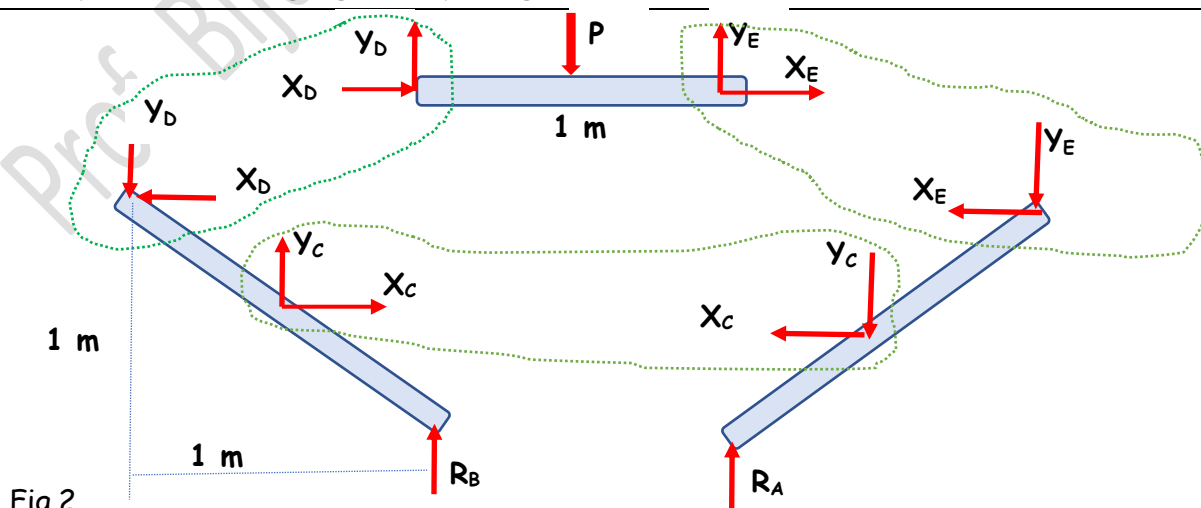

Fig.2
There are totally eight unknown forces in the free body diagrams Fig 2. We can write three equilibrium equations for each of the member. So, we get nine equations in total. We can solve them simultaneously to evaluate the unknowns.
Q.2 Another frame formed by three members is shown in figure 2. A load of 12 kN is acting at D. The pin at C can slide along the slot without friction. Both the supports are hinged at E and F. Determine the forces in the pins at A, B, C, E, and F.